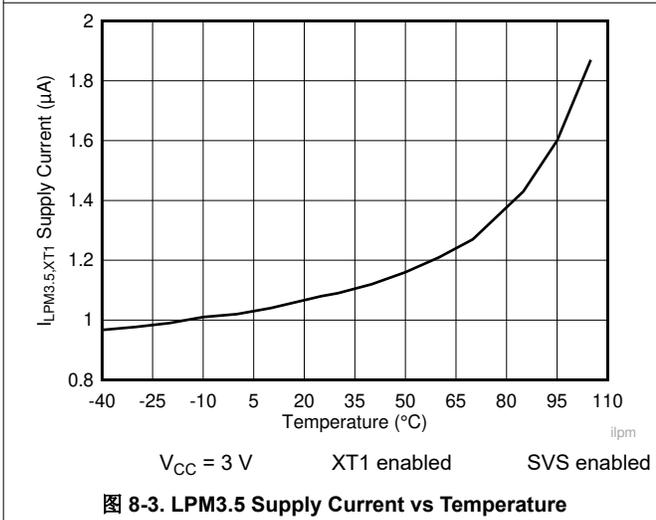

图 8-3. LPM3.5 Supply Current vs Temperature
| $I_{LPM3.5, XT1}$ Low-power mode 3.5, 12.5-pF crystal, includes SVS (1) (2) (3) (also see <a href="#">Figure 8-3</a> ) | 3 V      | 0.60   |     | 0.66  |     | 0.96  |     | 1.41  | 2.95 | $\mu A$ |